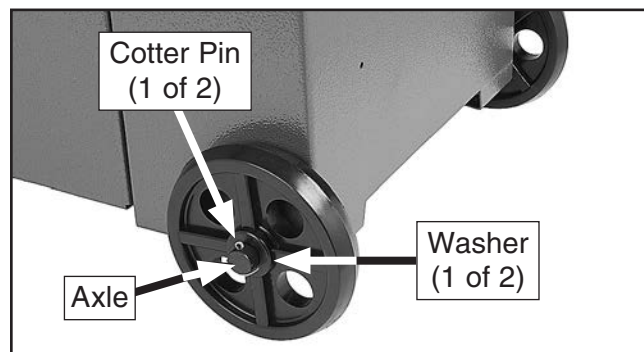

Figure 24. Wheels secured with cotter pin.
- Slide (1) flat washer onto each end of axle, followed by (1) wheel and another washer. Secure wheels with cotter pins, as shown in **Figure 24**.